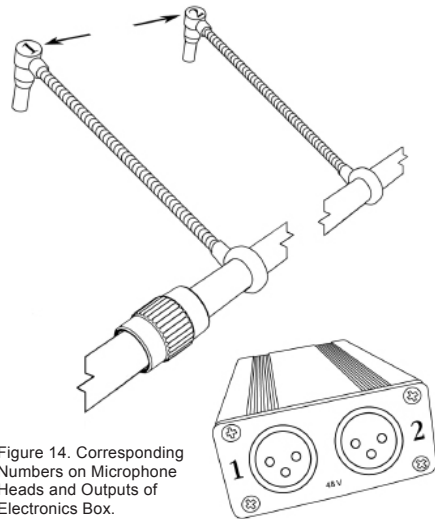

Figure 14. Corresponding Numbers on Microphone Heads and Outputs of Electronics Box.
12. Notice in Figure 14 that the top of each microphone head has a number. These numbers correspond to the numbers on the rear of the electronics box. Depending upon how the PianoMic™ is placed in the piano the high strings will be indicated by either the number 1 or number 2. Once the PianoMic™ has been placed, identify the microphone numbers on the mic heads for both the high and low strings and remember that they correspond to the numbers on the rear of